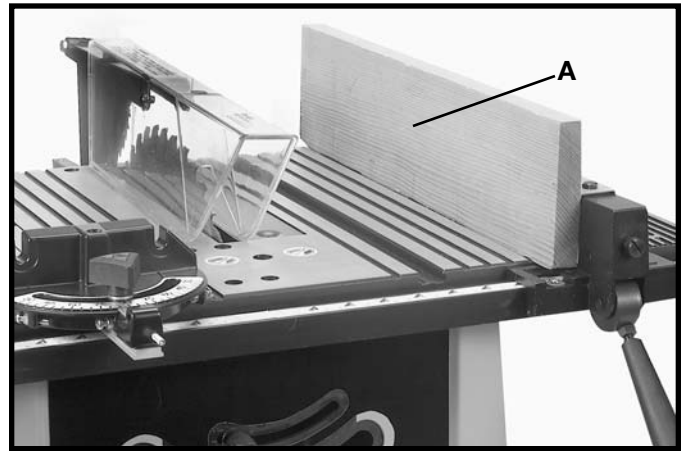

Fig. 40
It is necessary when performing some special operations to add wood facing (A) Fig. 40, to one or both sides of the rip fence, as shown. The wood facing is attached to the fence with wood screws through the holes in the fence. 3/4 inch stock is suitable for most work although an occasional job may require 1 inch facing.